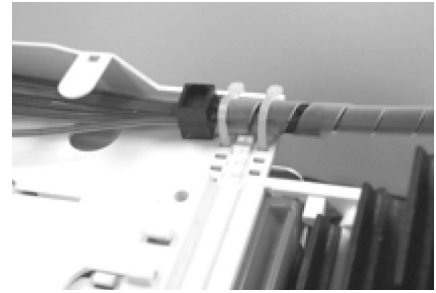

Figure 3
- Secure prepared ribbon bundles to the splice tray with tie wraps (Figure 3). Both 24- and 12-fiber ribbons should be oriented vertically when secured to the splice tray. Rotate the ribbon holder accordingly.